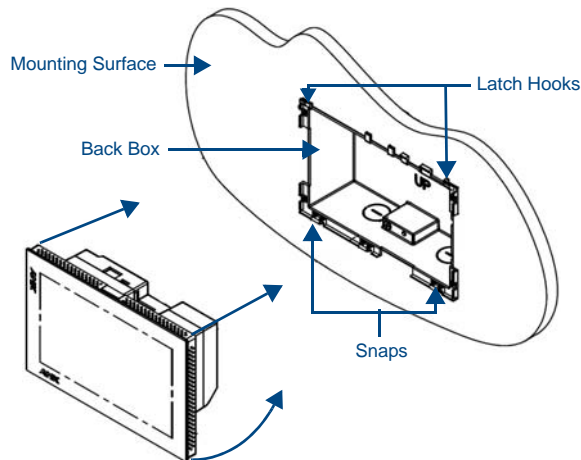

FIG. 5 Installing the MXD-700
7. Latch the panel onto the top hooks on the back box and rotate it down (Landscape) onto the bottom snaps or on the left side and rotate it to the right (Portrait installation) (FIG. 5). Press gently but firmly and evenly on the surface of the glass until the bottom panel snaps "click" to lock it down.